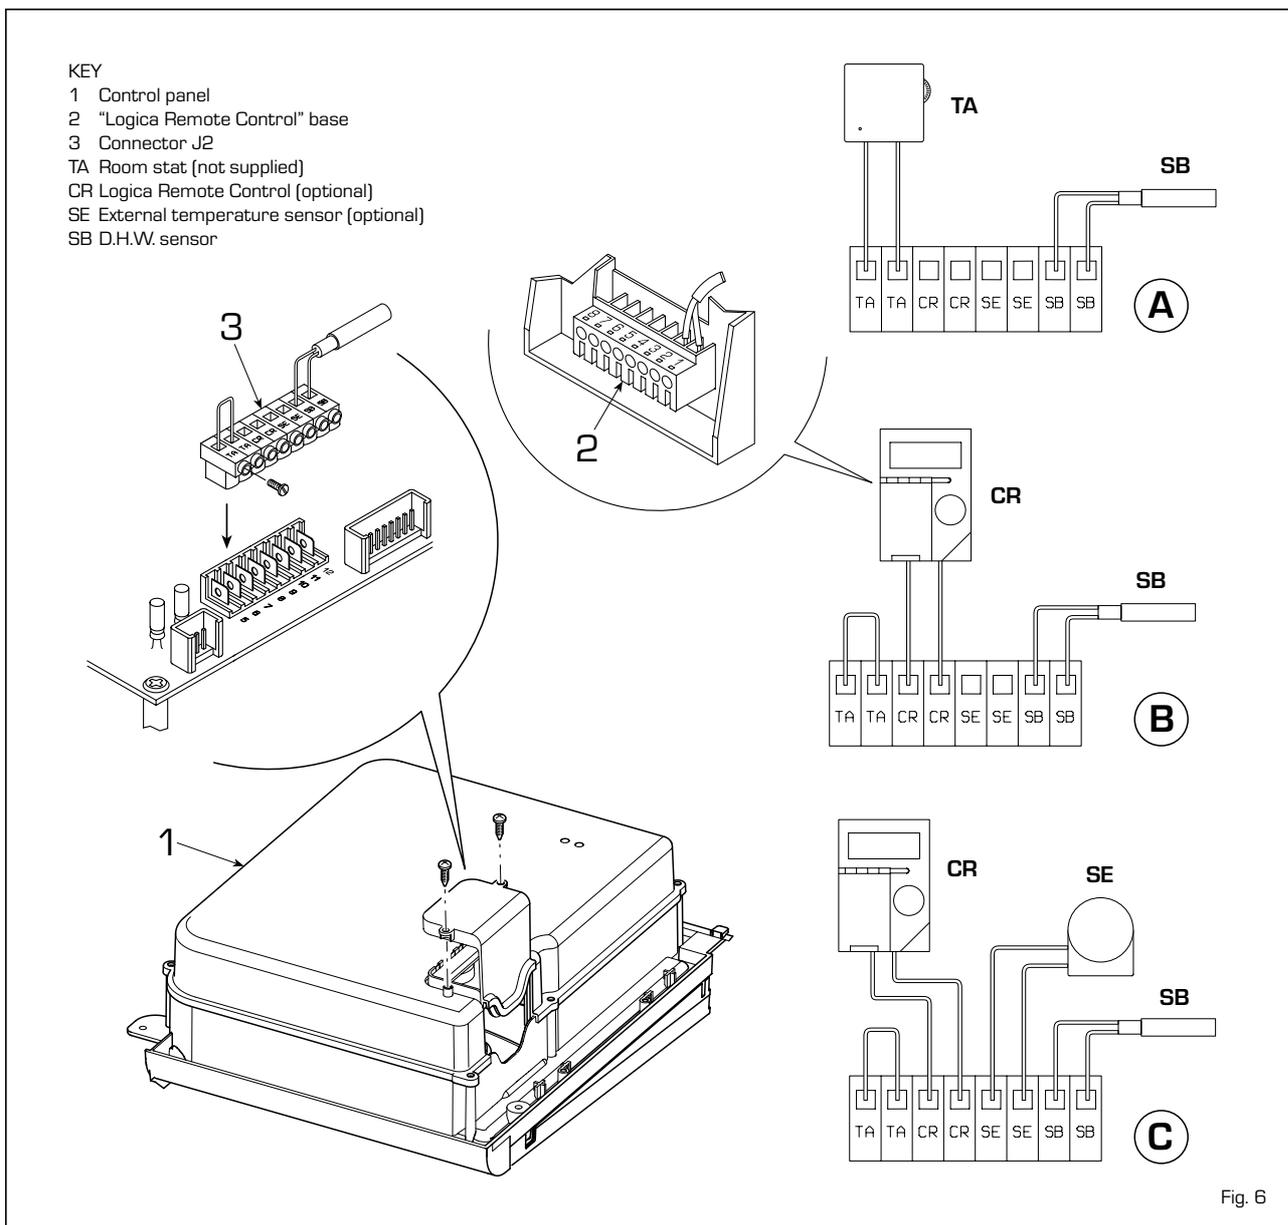

Fig. 6
The SB must be connected to the electronic control panel of the boiler as shown in fig. 6. To aid installation an optional hydraulic connection kit is available, code 8076104 ("BT130") and code 8076105 ("BT150"). Detailed instructions on assembling the kit are given in the packaging.
### 2.6.1 Room stat connection (fig. 6 pos. A)
### 2.6.2 "Logica Remote Control" connection (fig. 6 pos. B)
### 2.6.3 External temperature sensor connection (fig. 6 pos. C)
D.H.W. sensor (SB) to be connected to the J2 connector (3 fig. 6)